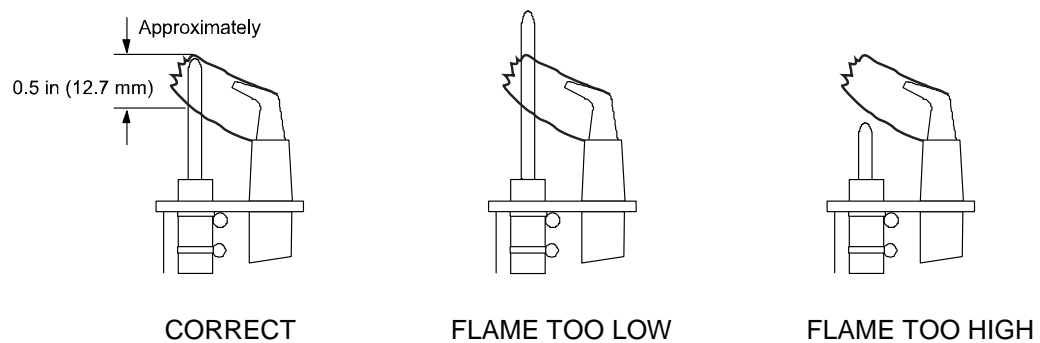

Figure 3: Proper Flame Sensor Position
- Weak flame, flame not in contact with the spark electrode of flame sensor. Check that flame sensor tip is in the flame. For proper sensing, the rod tip must be 3/8" (10mm) to 1/2" (13mm) in the flame. See Figure 3.